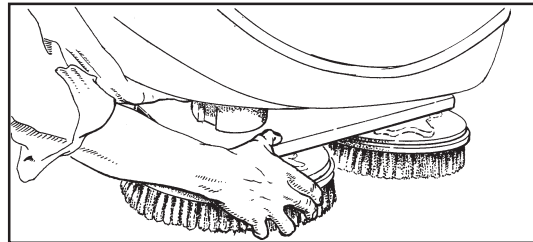

Figure 17B
6. Put a brush or pad driver under the brush motor plate. See figure 17B.